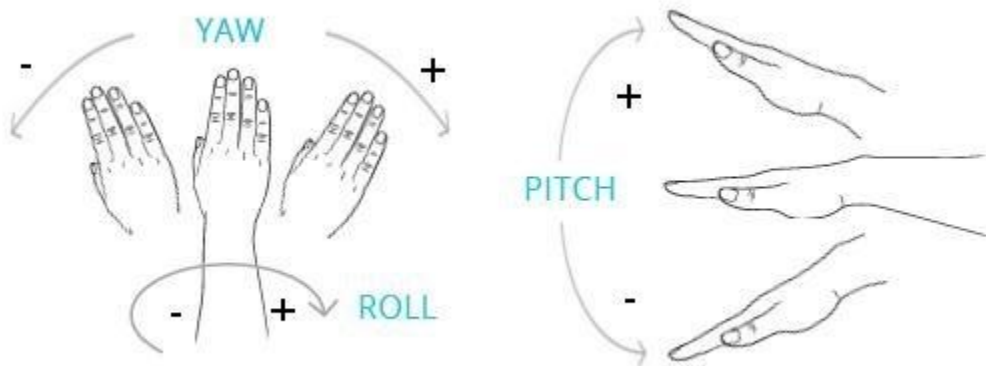

Figure 5: Visual Mock-Up of Pitch, Roll and Yaw of Hand from Home Position
5. To move the Robot, all tilt motions of the hand are confined between 45 degrees of the Home position. It is HIGHLY recommended to not tilt your hand 90 degrees or upside down, as this makes it very difficult for the IMU to get accurate pitch, roll and yaw measurements. To move the Robot left, ease your hand in the roll direction left. To move the Robot forward, ease your hand down in the pitch direction. To rotate the Robot, turn your hand like turning a knob (Refer to Figure 5). It is HIGHLY recommended to have the glove comfortably tight to reduce wobble during tilt motions and to take movement slowly.